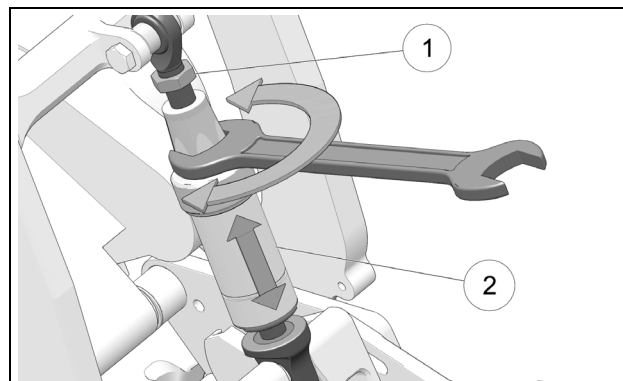

Figure 36
- Loosen the rod end lock nut (**1**). Adjust length of rod end by rotating the Soft Strut (**2**) using a 30-mm wrench. See Figure 36.